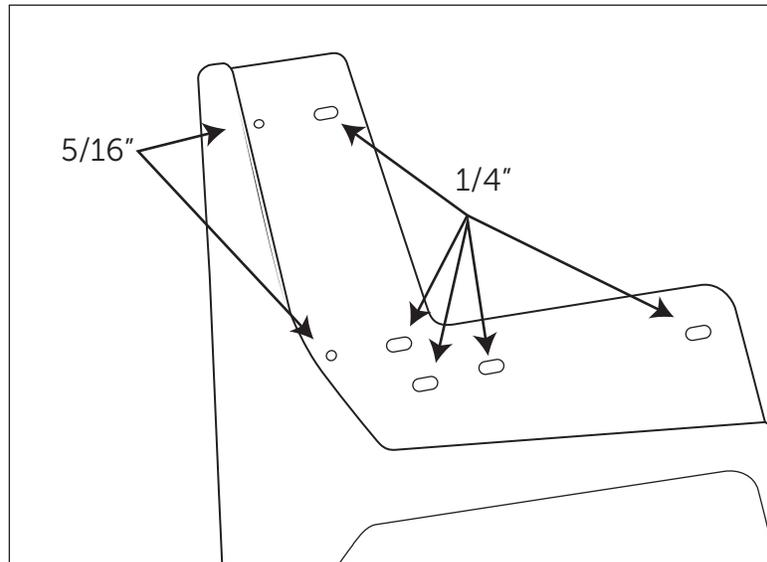

Figure 3
4. Drill five 1/4" holes and two 5/16" holes along the bolt pattern in the AEV Rear Splash Guard (fig. 3).